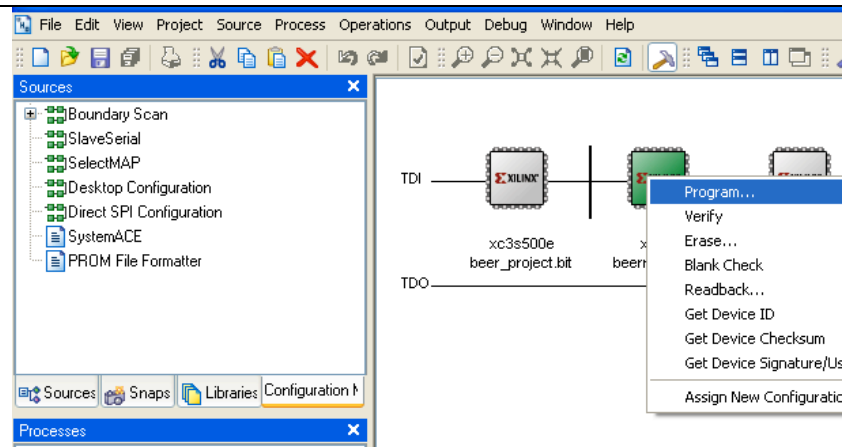

Figure 18: Program the board Flash
4. Right Click on the middle device (and select “**Program...**”: as seen in Figure 18.